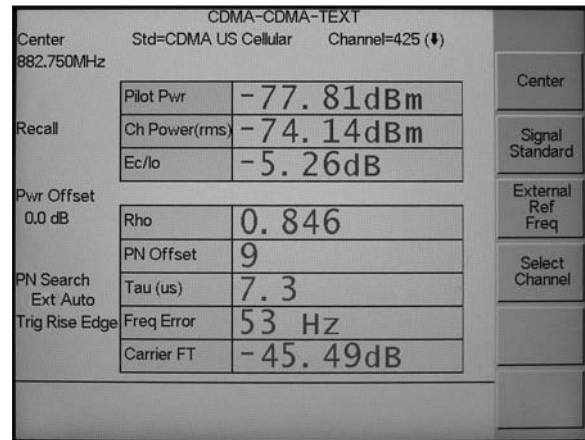

Figure 11. CDMA text only.
7. Press the Text Only soft key to display the text screen (Figure 11).